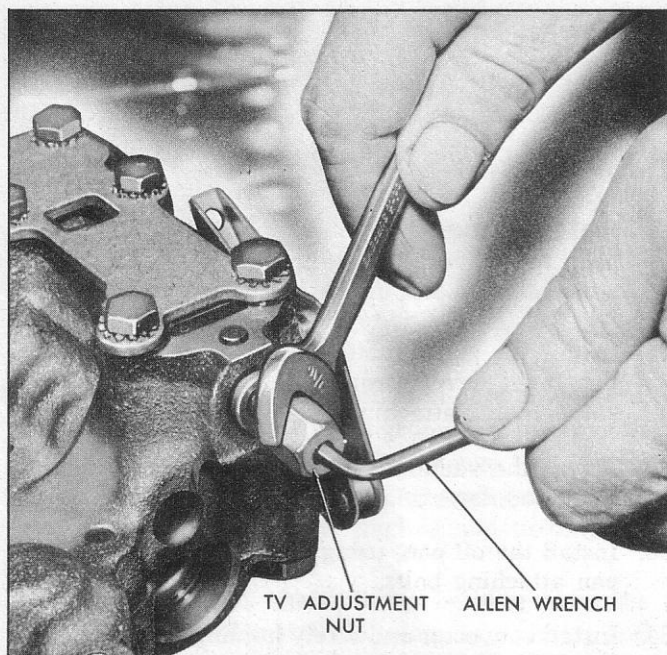

Fig. 44—TV Adjustment Nut
No provision is made for checking TV pressures. However, if operation of the transmission is such that some adjustment of the TV is indicated, pressures may be raised or lowered by adjusting the position of the jam nut on the throttle valve assembly (fig. 44). To raise TV pressure 3 psi, back-off the jam nut one (1) full turn. This increases the dimension from the jam nut to the throttle valve assembly stop. Conversely, tightening the jam nut one (1) full turn lowers TV pressure 3 psi. A difference of 3 psi in TV pressure will cause a change of approximately 2 to 3 mph in the wide open throttle upshift point. Smaller pressure adjustments can be made by partial turns of the jam nut. The end of TV adjusting screw has an allen head so the screw may be held stationary while the jam nut is moved.